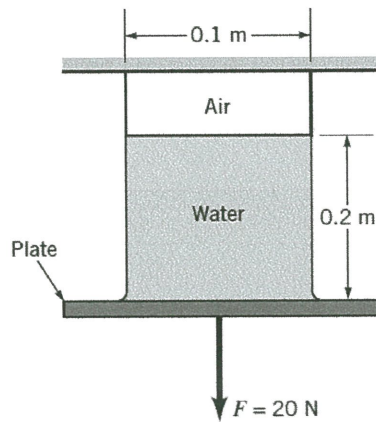

Figure Q4(c)
- (c) An inverted 0.1 m diameter circular cylinder is partially filled with water and held in place as shown in **Figure Q4(c)**. A force of 20 N is needed to pull the flat plate from the cylinder. Calculate the air pressure within the cylinder. The plate is not fastened to the cylinder and has negligible mass. (7 marks)
- Q6** (a) List down **two (2)** types of turbines and state the head and flow rate requirement needed to run the turbines. (4 marks)